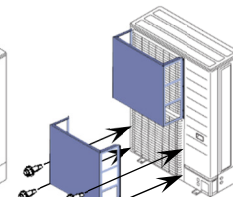

Figure 6
(3) Install the wind baffle on the lower fan in the same way as the upper fan as shown in Figure 6 and 7.